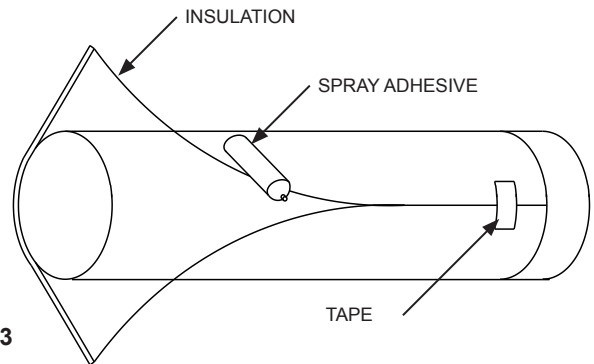

FIG. 3
- Step 5:** Apply spray adhesive to both the flex liner and insulation at 2 foot (0.61 m) intervals. Wrap the insulation tightly around the liner making sure to overlap the seam by about 1 inch (25 mm) as shown in FIG. 3. Secure the seam with foil tape about every 2 feet (0.61 m). Repeat process until the insulation is securely attached to the entire length of liner.